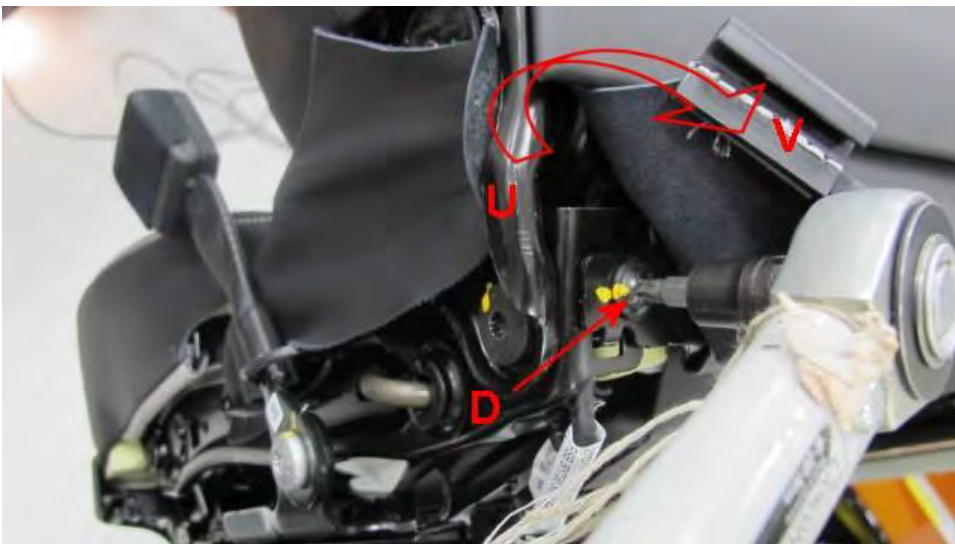

Figure 52
5. Referencing figure 52 unclip trim flap (V) from seat frame (U) to access inboard ISO bar fastener (D)